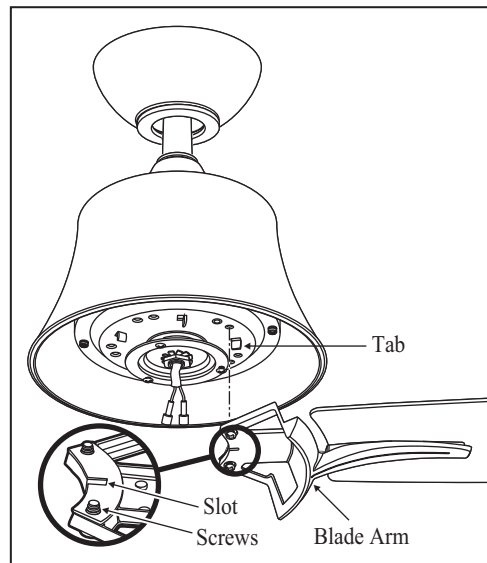

Figure 17
3. Fasten the blade assemblies to the motor housing by lining up the slots of the blade arms with the tabs on the motor housing, then tighten the two screws and washers already installed in the blade arms. (Figure 17)